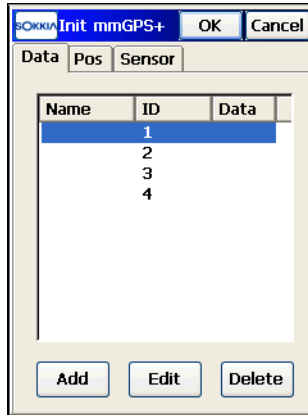

Figure 8-13. Initialize mmGPS – (Trans) Data Tab
2. Tap **Survey ▶ Init mmGPS+**. The Init mmGPS+ screen displays (Figure 8-13 on page 8-14).
- On the (Trans) *Data* tab, select the **ID** that corresponds to the channel of the transmitter, then tap **Add** (Figure 8-13). The *Transmitter* screen displays.